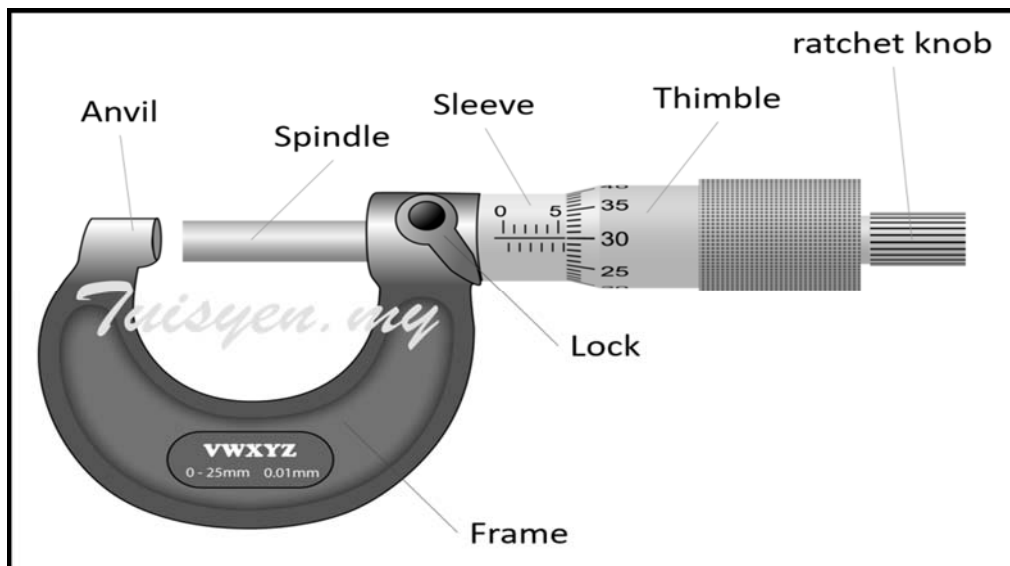

FIGURE 6.2
- 6.2.1 What is the name of the tool shown in FIGURE 6.2 above? (1)
- 6.2.2 Calculate the measurement displayed on FIGURE 6.2. (2)